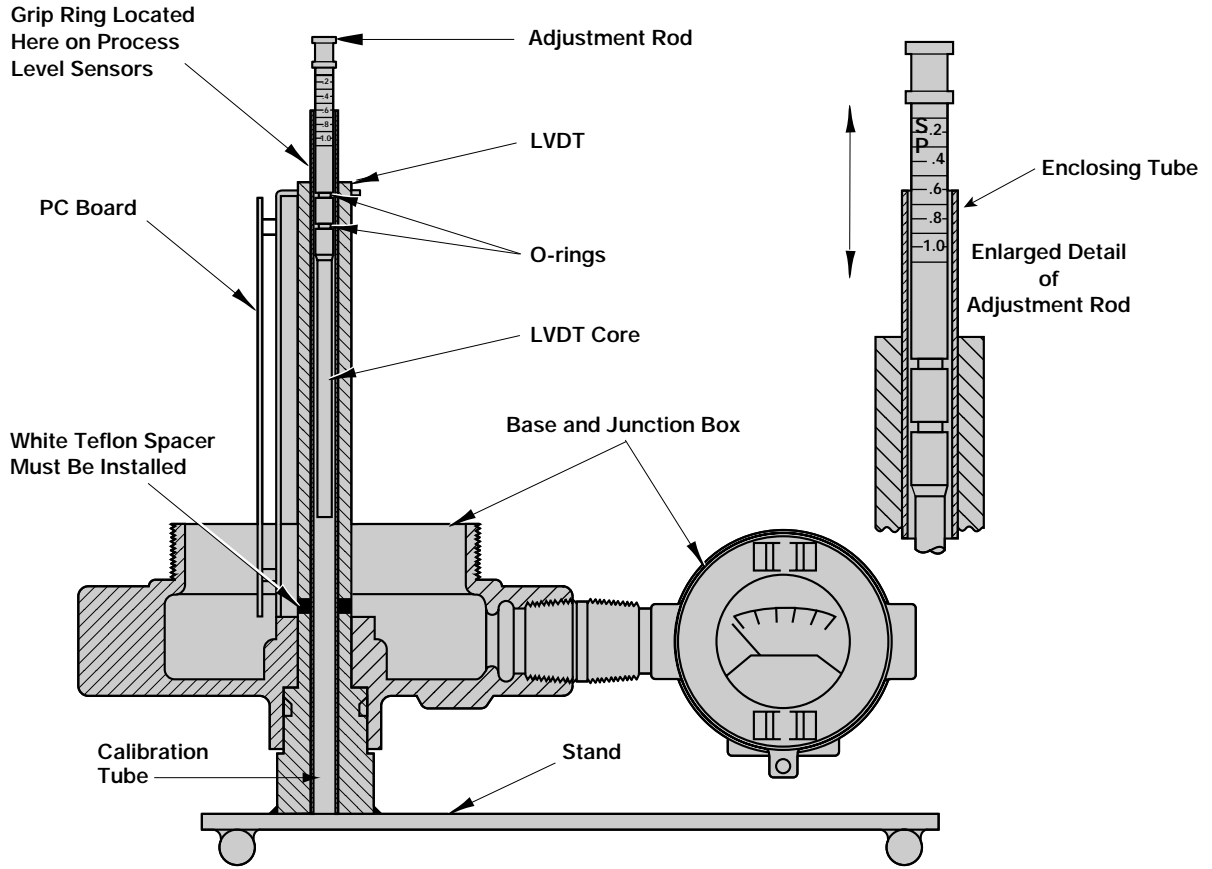

Figure 16
To install transmitter head on calibration stand, carefully slide the white teflon spacer and LVDT assembly down over the open topped enclosing tube. Be certain that both the LVDT assembly and the housing base are fully seated on the fixture. See Figure 16 on page 13.
5. Push the adjustment rod completely down into the enclosing tube to simulate low level. See Figure 16 on page 13.
2. Slide the electronics head over the open topped enclosing tube of the calibration stand, making sure that the white plastic washer is in place below the electronics head. See Figure 16 on page 13.